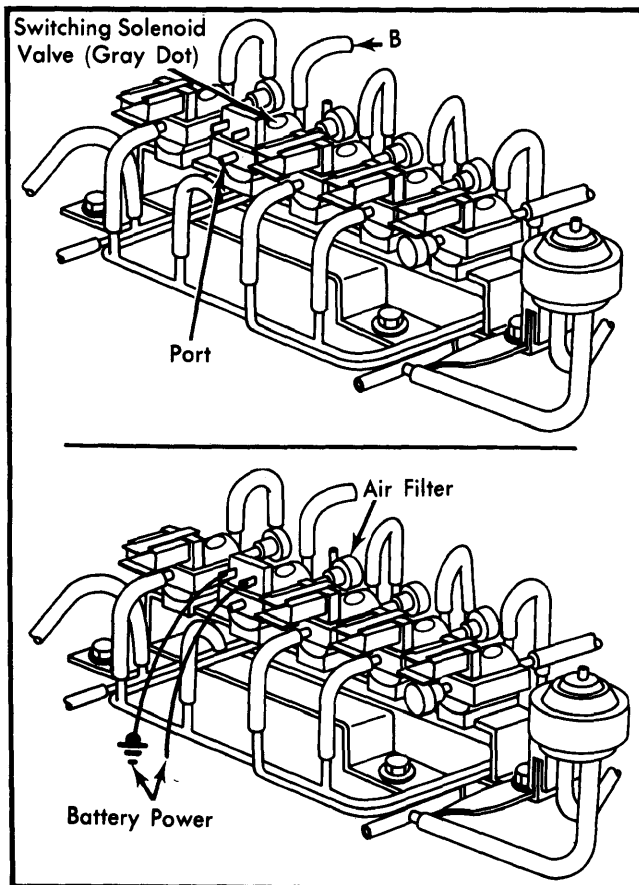

Fig. 5 Testing Switching Solenoid Valve
- 1) Disconnect vacuum sensing tubes from switching solenoid valve and vacuum pipe. Blow through switching valve from vacuum sensing tube B in Fig. 5. Air should pass through valve and escape from front port.